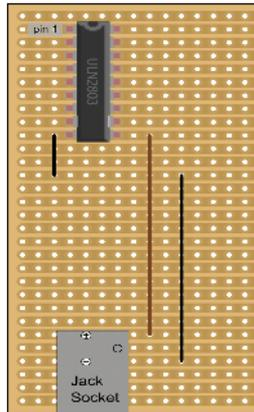

Figure 5-29. *Soldering the jack plug into place*
5. Place and solder the jack plug socket in place (Figure 5-29).